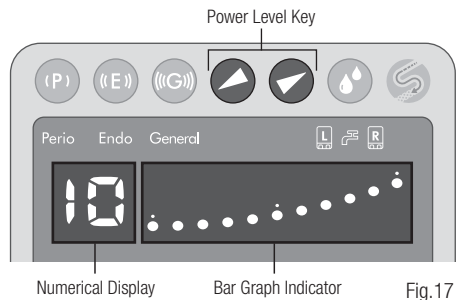

Fig.17
2) Set the power level with the Power Level Key on the Front Panel. The Bar Graph Indicator and Numerical Display will indicate the selected power level. (Fig. 17) Make sure the power level is set in the appropriate range for the attached Tip.